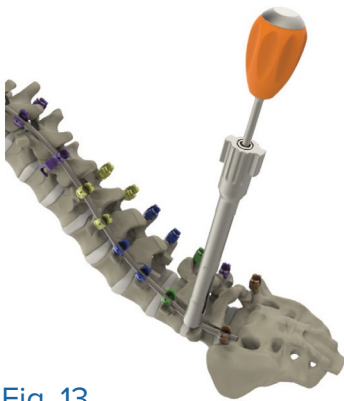

Fig. 13
- Use the set screw starter to provisionally lock the set screw through the persuader (Fig 13).